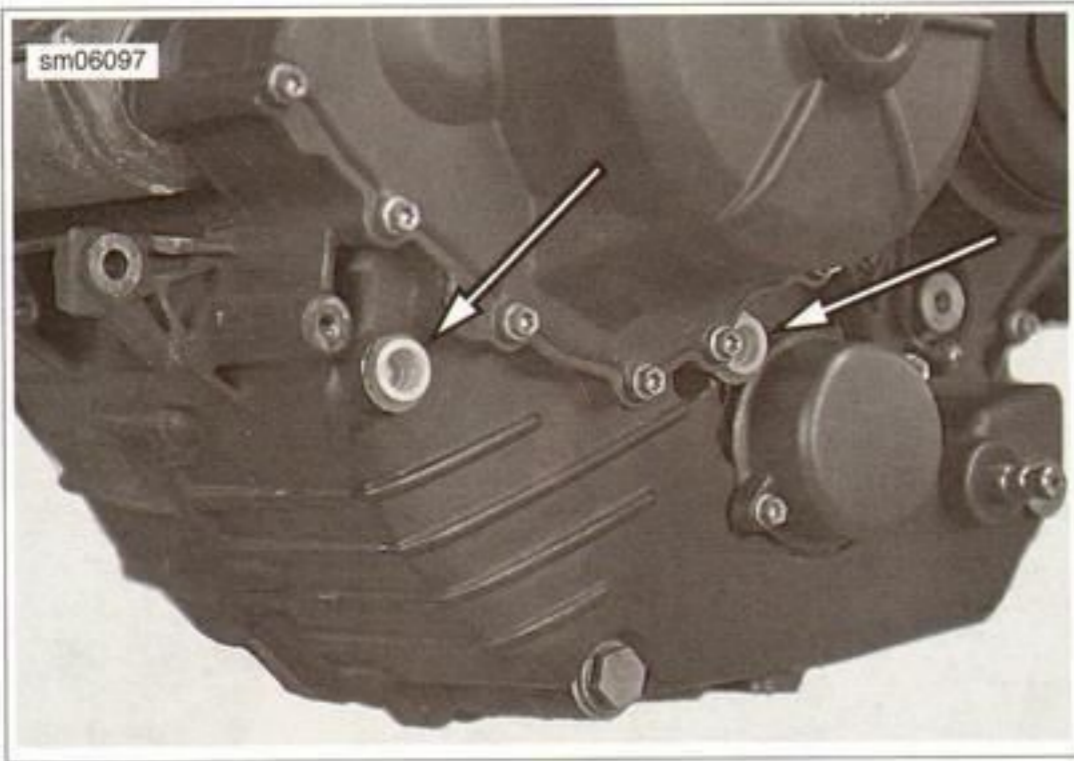

Figure 3-30. Oil Fitting Plugs
8. See Figure 3-30. Plug the case oil fittings holes with plastic plugs from a new engine.